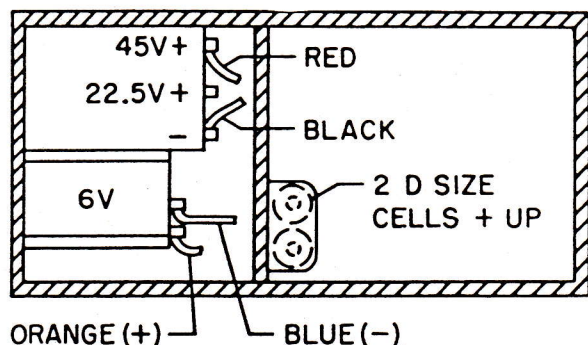

Figure 1. Installation and Connections
A. BATTERY INSTALLATION (Refer to Figure 1)